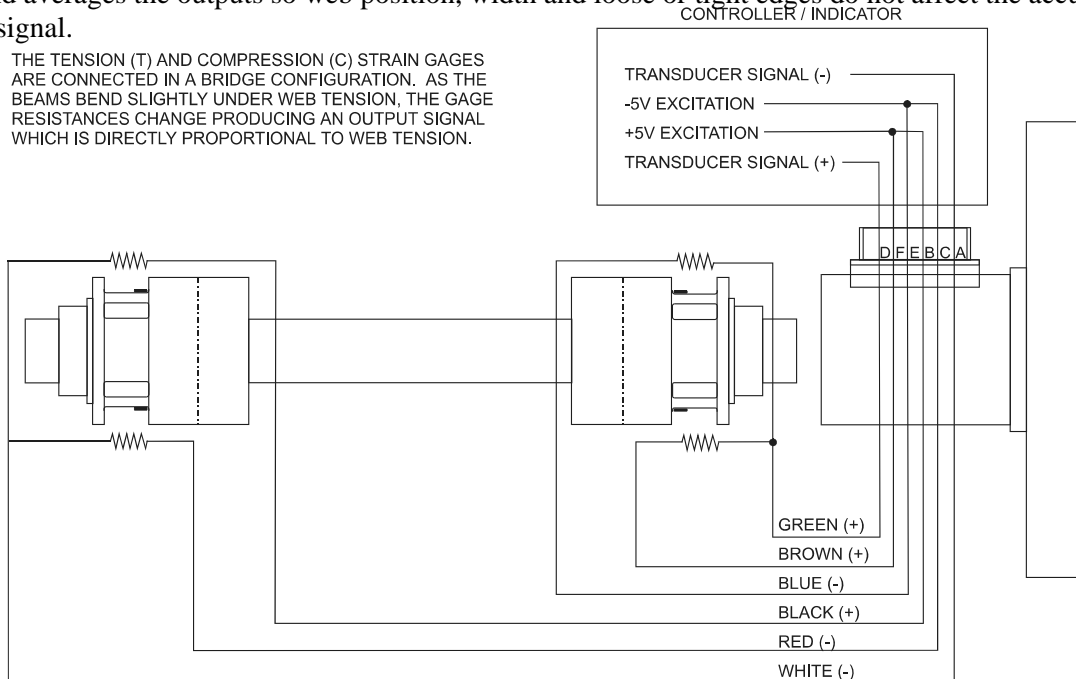

Figure 2 - STRAIN GAGE CONNECTIONS
1.3 ELECTRICAL OPERATION (see figure 2)